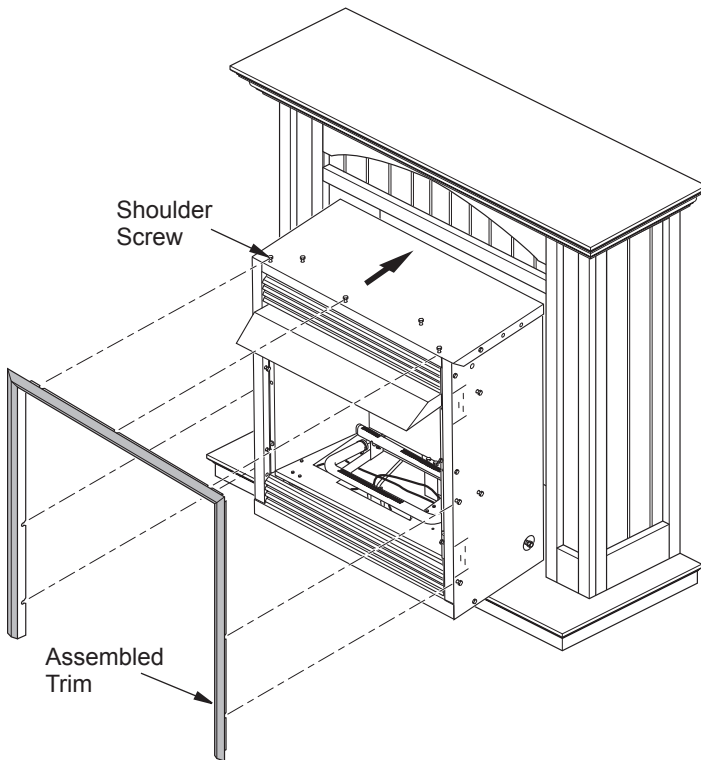

Figure 9 - Inserting Fireplace Into Cabinet Mantel
4. Position firebox inside mantel, carefully positioning gas lines (see Figure 9). **IMPORTANT:** Use caution when positioning fireplace on mantel base. Base may scratch easily.
5. Place trim kit on the shoulder screws located on the side and top of the fireplace. Firmly snap the trim over the shoulder screws on fireplace (see Figure 9). Align fireplace in mantel assembly so that the trim overlaps the mantel evenly on all three sides.